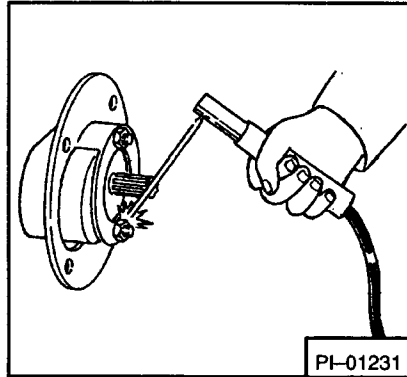

Fig. 4-49 Spot Weld Nuts
3. Install bolt with lock washers and put nuts on pump side. Tighten nuts and spot weld them to plate (Fig. 4-49).